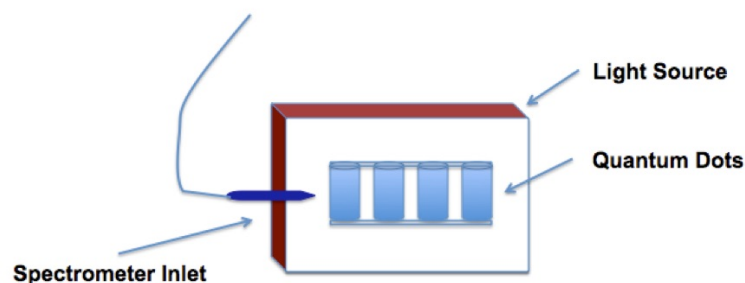

Figure 3. This figure shows the placement of light source, quantum dots and spectrometer inlet for absorption spectra.
1. Use the Ocean Optics spectrometer to take a background spectrum of the background light source, Figure 3.